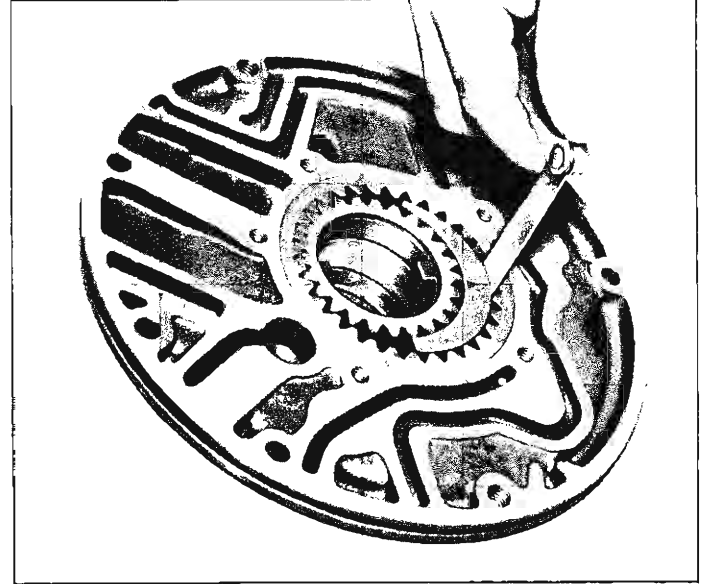

Fig. 23—Driven Gear to Crescent Clearance
- b. Clearance between I.D. of driven gear and crescent should be .003"-.009" (fig. 23).